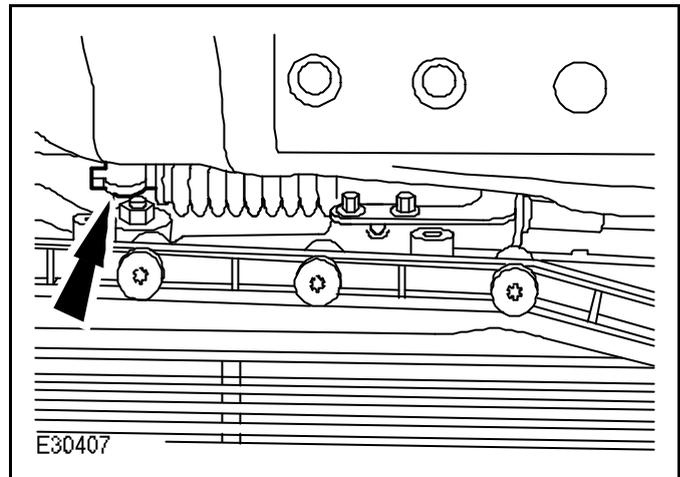

Fig. 8
- 17 Attach the selector lever cable (see Fig. 8).